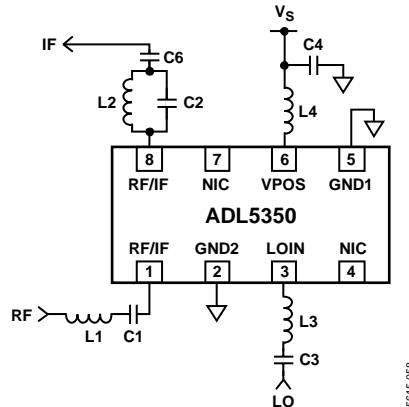

Figure 58. Reference Schematic
The ADL5350 is a simple single-ended mixer that relies on off-chip circuitry to achieve effective RF dynamic performance. The following steps should be followed to achieve optimum performance (see Figure 58 for component designations):
2. Tune the LO port input network for optimum return loss. Typically, a band-pass network is used to pass the LO signal to the LOIN pin. It is recommended to block high frequency harmonics of the LO from the mixer core. LO harmonics cause higher RF frequency images to be downconverted to the desired IF frequency and result in sensitivity degradation. If the intended LO source has poor harmonic distortion and spectral purity, it may be necessary to employ a higher order band-pass filter network. Figure 58 illustrates a simple LC band-pass filter used to pass the fundamental frequency of the LO source. Capacitor C3 is a simple dc block, while the Series Inductor L3, along with the gate-to-source capacitance of the buffer amplifier, form a low-pass network. The native gate input of the LO buffer (FET) alone presents a rather high input impedance. The gate bias is generated internally using feedback that can result in a positive return loss at the intended LO frequency.
3. Design the RF and IF filter networks. Figure 58 depicts simple LC tank filter networks for the IF and RF port interfaces. The RF port LC network is designed to pass the RF input signal. The series LC tank has a resonant frequency at $1/(2\pi\sqrt{LC})$. At resonance, the series reactances are canceled, which presents a series short to the RF signal. A parallel LC tank is used on the IF port to reject the RF and LO signals. At resonance, the parallel LC tank presents an open circuit.